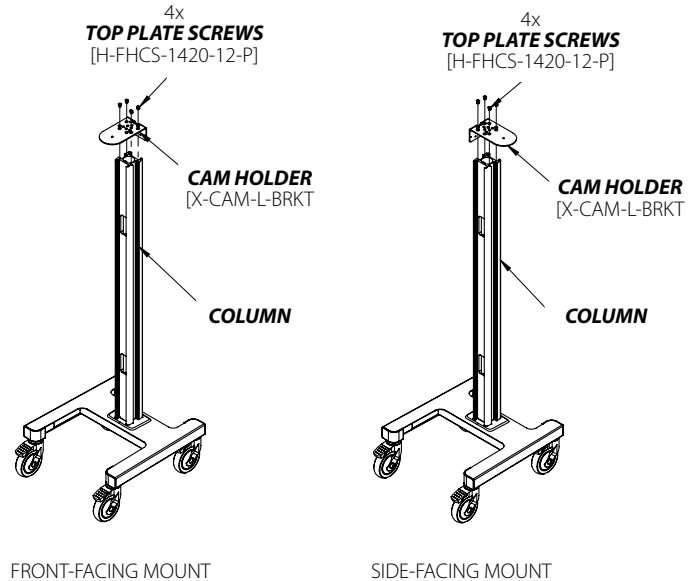

Figure 2
2. Place the **CAM HOLDER** onto the **COLUMN** either front or side-facing as show in **Figure 2**. Align the holes and secure with the 4x **CAM HOLDER SCREWS**.